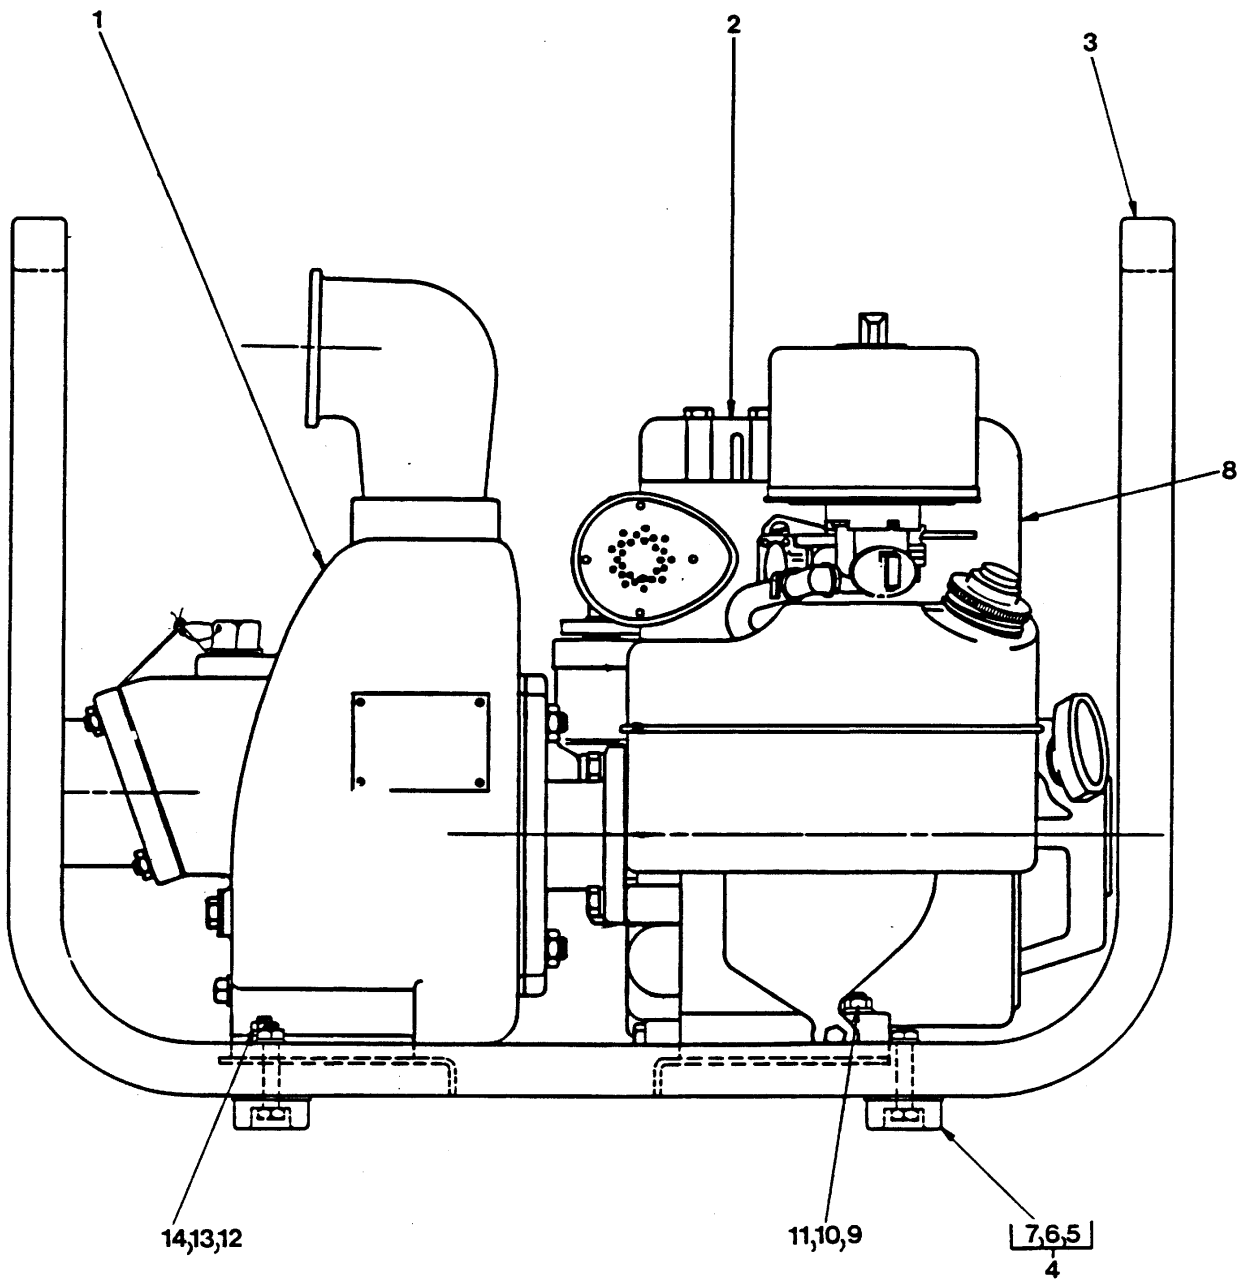

Figure 1. Pump Model 82D-8
This pump requires little service due to its rugged, minimum-maintenance design. However, if it becomes necessary to inspect or replace the wearing parts, follow these instructions which are keyed to the sectional views (see Figures 1 and 2) and the accompanying parts lists.
**(Figure 1)**